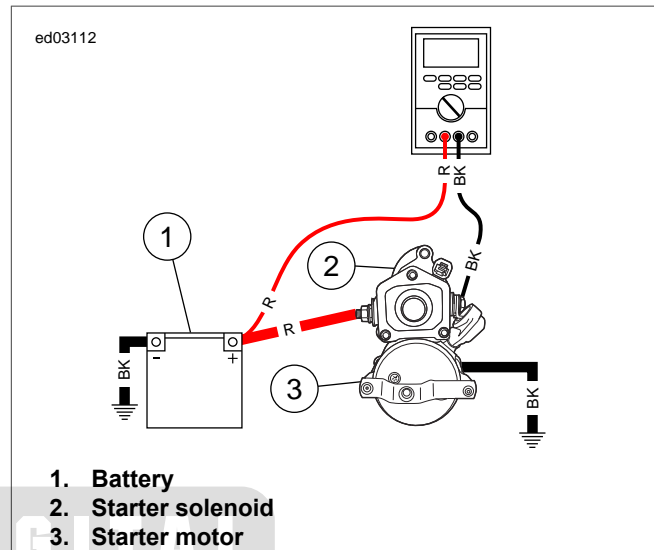

Figure 1-13. To Starter Solenoid Starter Terminal
- a. See Figure 1-13. Connect red meter lead to positive battery post.